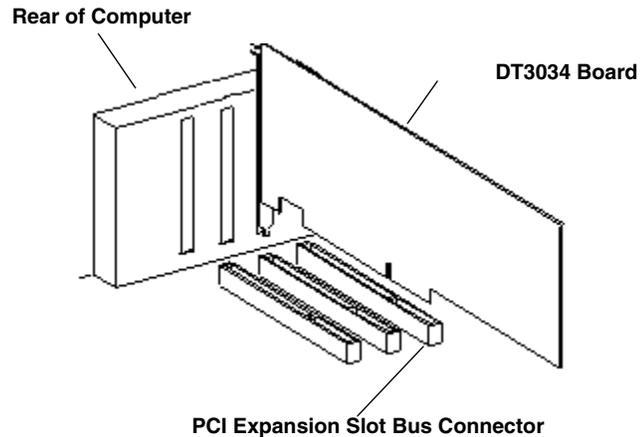

Figure 2: Inserting the DT3034 Board in the Computer
1. Position the board so that the cable connectors are facing the rear of the computer, as shown in Figure 2.